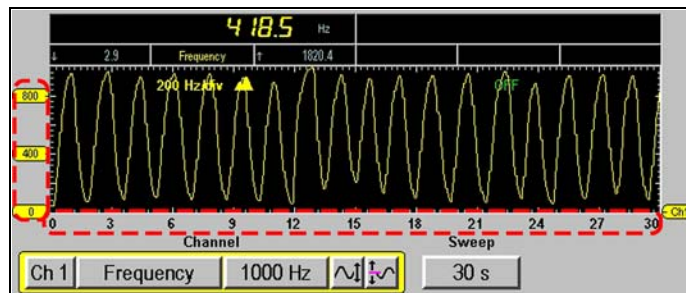

Figure 4-42 Scales Display menu selection sample
- Select **Setup > Scales Display** (Figure 4-42).
The scale values appear along the X (horizontal) and Y (vertical) axis of the graph (Figure 4-42).